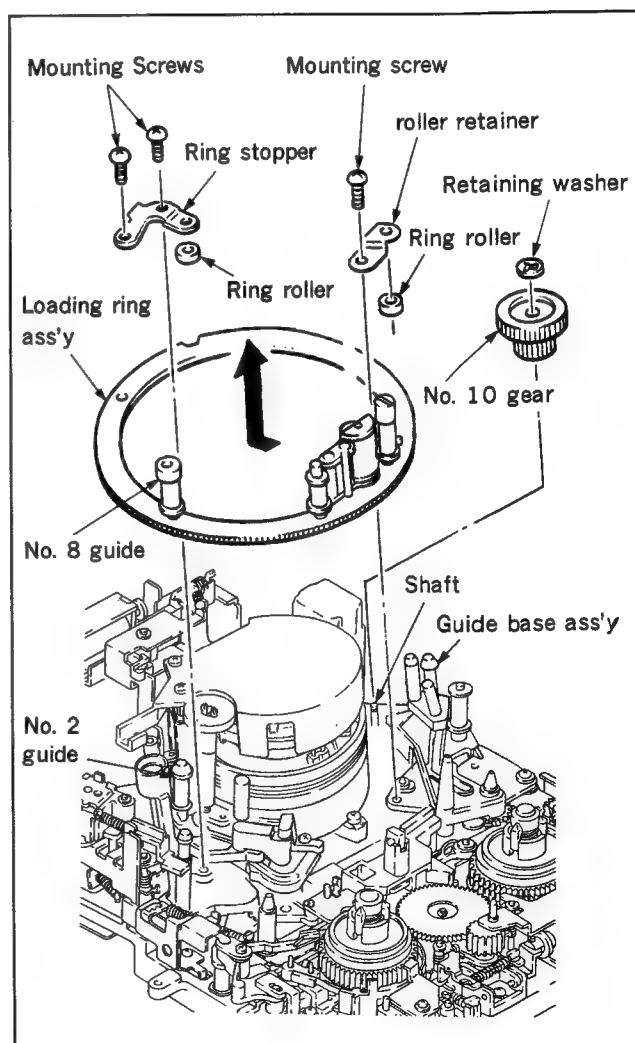

Fig. 4-4-1 Loading ring ass'y removal
5. No. 10 gear removal (Fig. 4-4-1)
6. Roller retainer removal (Fig. 4-4-1)
7. Ring stopper removal (Fig. 4-4-1)
8. Loading ring ass'y removal (Fig. 4-4-1)